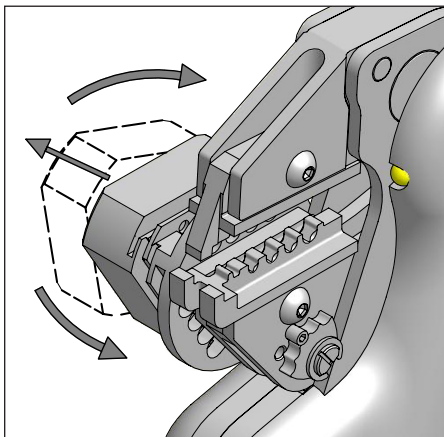

Figure 12
### 8.3.3 Die sets for rotated contacts (Figure 12, 13)
2. If required, pull out the positioning guide and rotate it in order to position it correctly. (Figure 12)